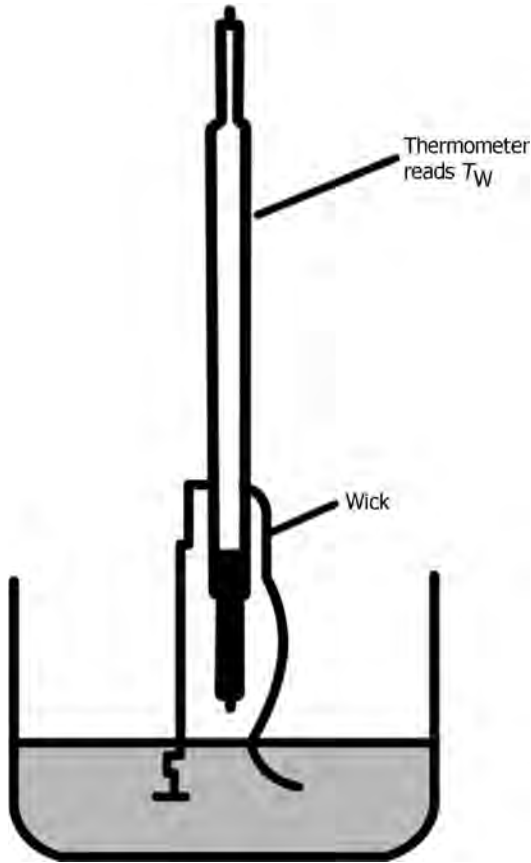

FIGURE 18.10 Illustration for obtaining wet bulb temperature.
- Figure 18.10 illustrates how wet bulb temperature can be obtained.